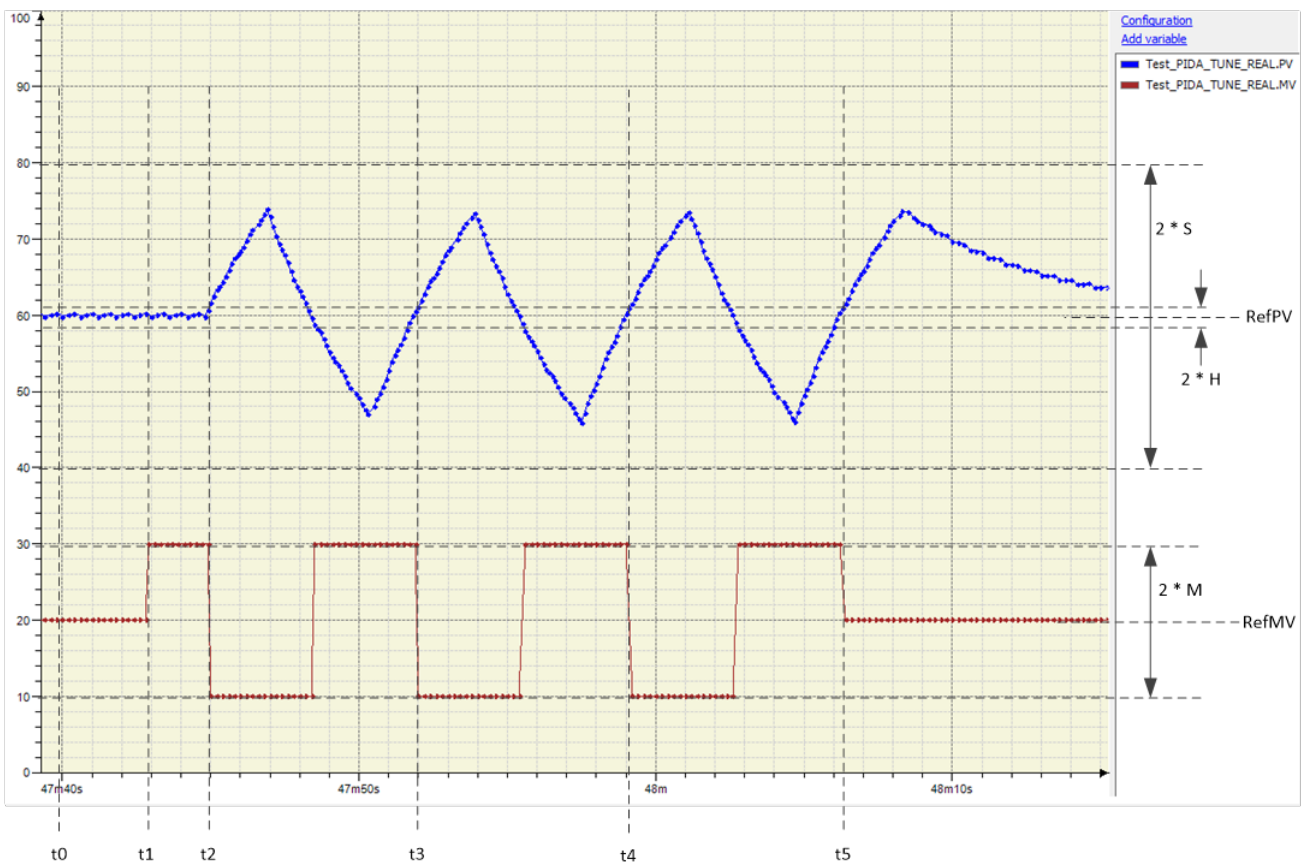

Figure 14: Working principle of auto-tuning
This auto-tuning function is based in the relay method, and aims to calculate the tuning parameters of the PID controller (Kp, Td_Kd and Ti_Ki). This section explains the working principles of this function, with the help of Figure 14.
- During auto-tuning, it is important to limit the oscillation of PV, using a configuration parameter (see S in Figure 14).
While AutoTune is TRUE, the MV output of PIDA_TUNE_REAL is controlled by the auto-tuning function. MV is switched by the auto-tuning function between three possible values (see Figure 14):
This configuration parameter indicates the amplitude of the MV oscillation during the auto-tuning, expressed as a percentage of the MV range (MaxMV - MinMV). This parameter is used to calculate the value M in Figure 14:
This configuration parameter indicates the PV hysteresis during the auto-tuning, expressed as a percentage of the PV range (MaxPV - MinPV). This parameter is used to calculate the value H in the Figure 14:
This configuration parameter indicates the maximum peak of PV during the auto-tuning for safety, expressed as a percentage of PV range (MaxPV - MinPV). This parameter is used to calculate value S in Figure 14:
If a peak of PV gets out of range $RefPV \pm S$, the auto-tuning is aborted and MV returns to the initial value RefMV (see Figure 14). A good configuration of this parameter is important for safety because it limits the oscillations of PV during auto-tuning.
This configuration parameter indicates the number of measurement cycles used by the auto-tuning function for averaging the results. In the example shown in Figure 14, its value is 3.